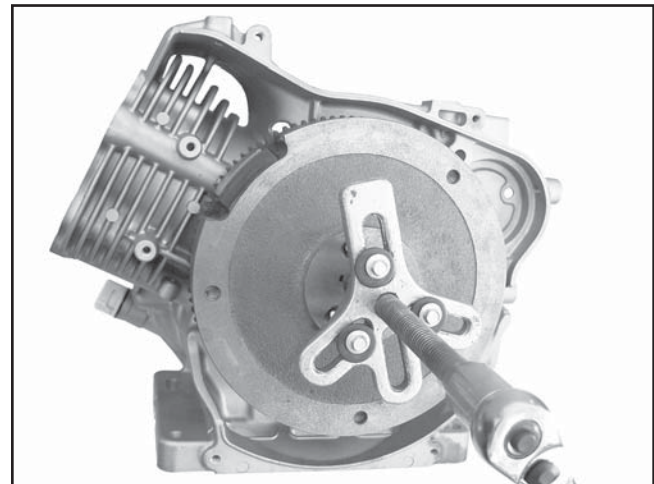

Figure 9-42. Using Puller to Remove Flywheel.
4. Remove the flywheel from the crankshaft using a suitable puller. See Figure 9-42.